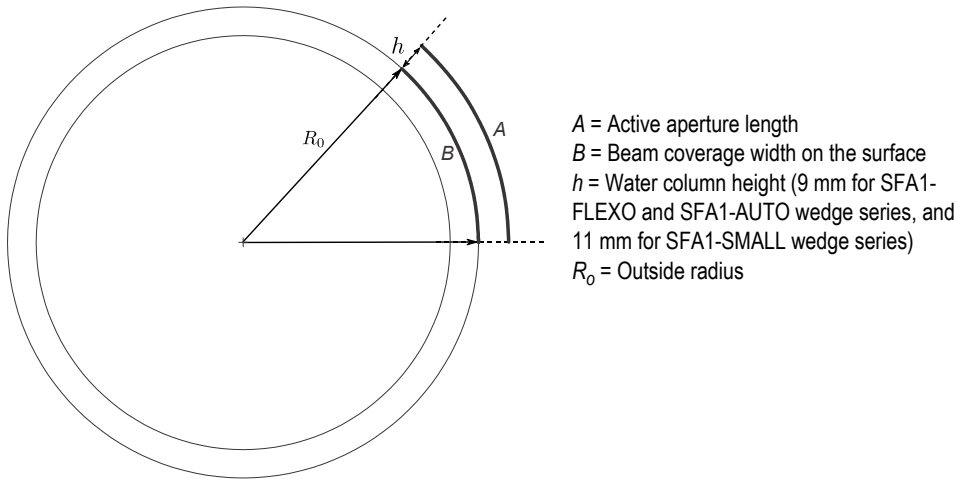

Figure 4-6 Variables for calculating probe beam width on the surface
It is also possible to calculate the corrected value using equation (1) on page 40. The equation's variables are illustrated in Figure 4-6 on page 40.